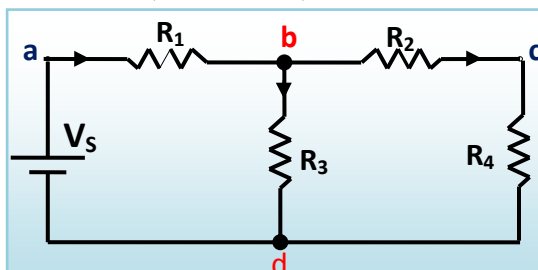

Fig. 2.21 A resistive circuit
**Circuit:** It is the interconnection of sources, components and devices to form the closed path through which the current flows. In fig. 2.21, Source  $V_s$  and resistors  $R_1$ ,  $R_2$ ,  $R_3$  are interconnected to form a circuit.
**Node:** A node or a junction in an electrical circuit is a point where the current divides. In fig. 2.21 points 'b' and 'd' are the nodes.
**Branch:** A branch is a conductive path through which the same current flows. Fig. 2.21 has three branches (d-a-b, b-c-d, and b-d).
**Loop:** A loop is any closed path in an electrical circuit. It is a closed path formed by starting at a point, passing through a set of nodes and returning back to the starting point without passing through any node more than once. Fig. 2.21 has three loops, namely, a-b-d-a, b-c-d-b, a-b-c-d-a.
**Mesh:** A mesh is an independent loop, i.e. it does not have any other loops within it. In fig. 2.21 the two loops (a-b-d-a, b-c-d-b) just identified are also 'meshes' but other loop (a-b-c-d-a) is not a mesh.